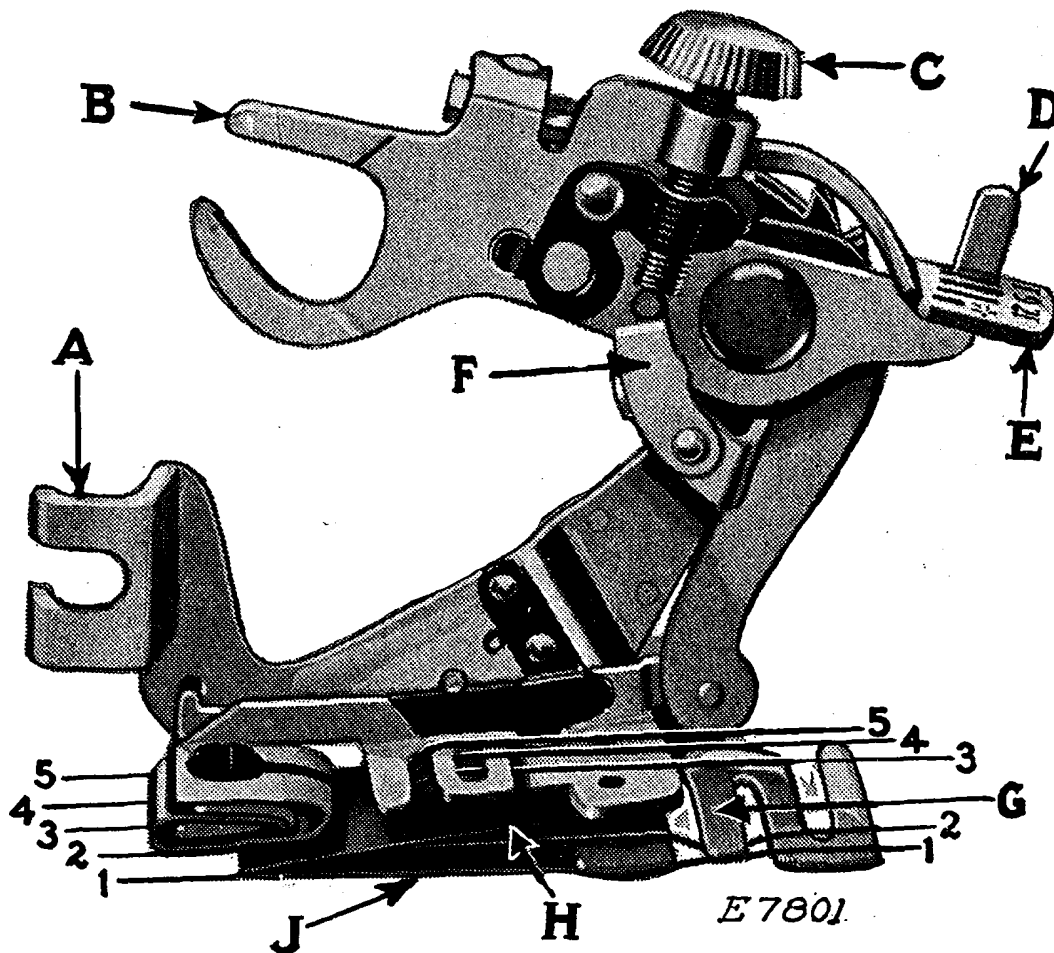
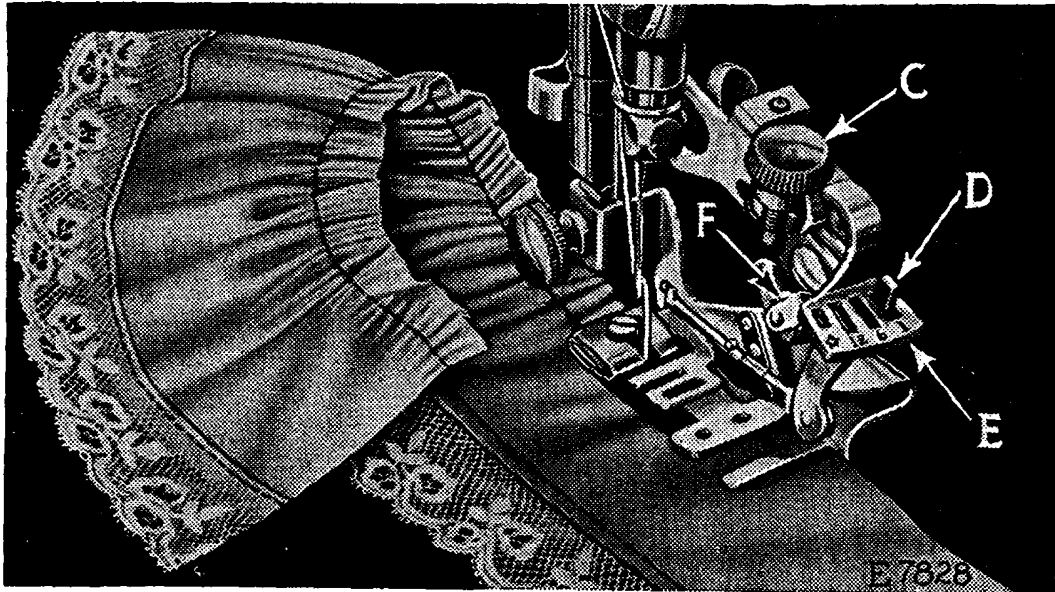
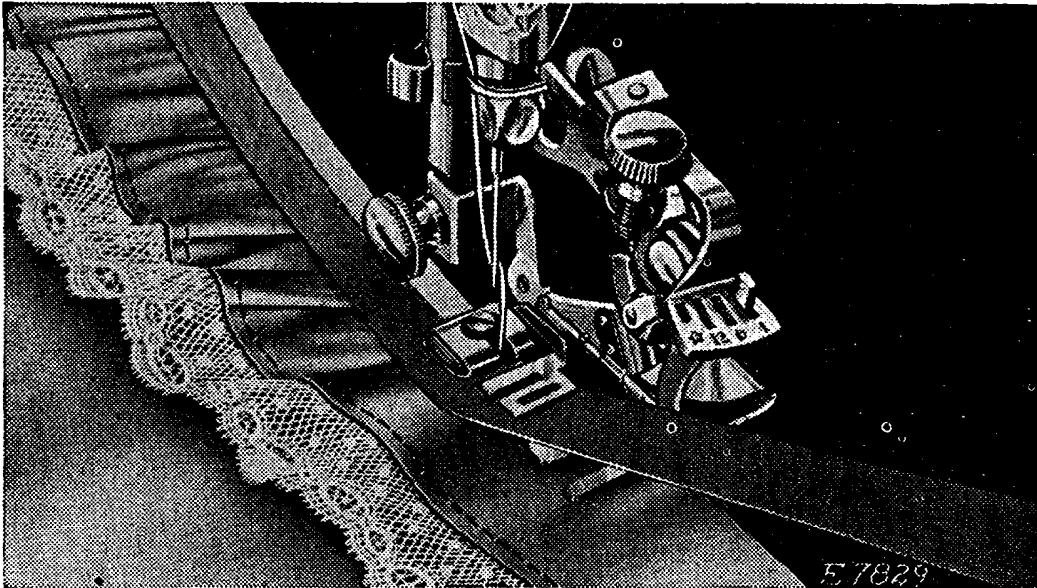
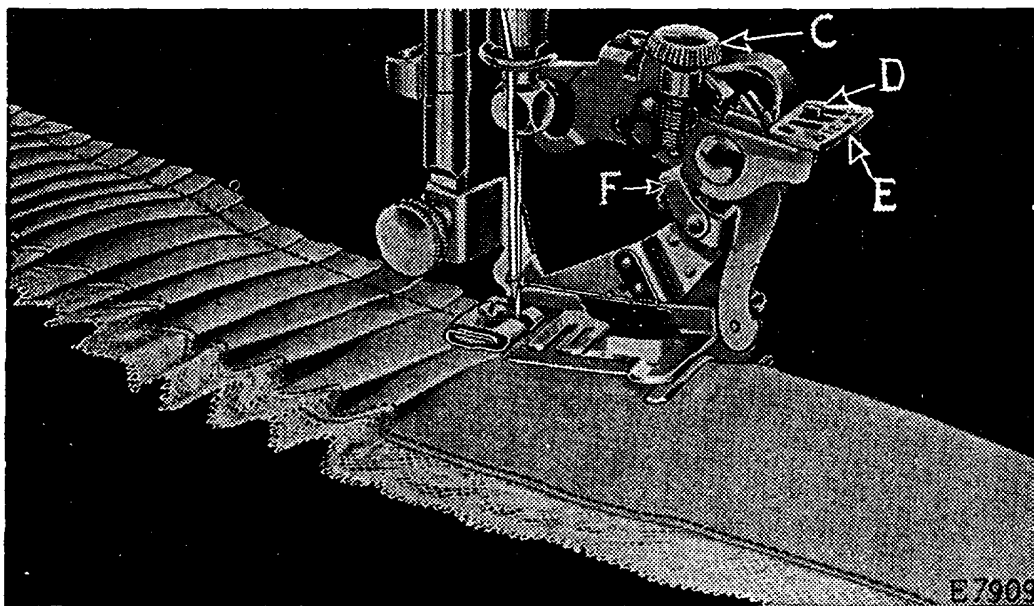

FIG. 42. THE RUFFLER AND ITS PARTS
FIG. 43
FIG. 45
FIG. 47
Lines 1, 2, 3, 4 and 5 shown in Fig. 42 indicate where the material is to be placed for various operations, as follows:
Refer to Fig. 42 when inserting the material in the ruffler.
(SEE REFERENCES IN FIG. 42)
Raise the needle bar to its highest point and remove the presser foot. Attach the ruffler foot (A, Fig. 42) to the presser bar by means of the thumb screw, at the same time placing the fork arm (B, Fig. 42) astride the needle clamp as shown in Fig. 43.
The adjusting finger (F, Fig. 43) is not intended for gathering and should be moved forward or away from the needle, as shown in Fig. 43.
Raise the adjusting lever (E, Fig. 43) and move it to the left so that the projection (D, Fig. 43) will enter the slot marked "1" in the adjusting lever (E) when the lever is released. The ruffling blade will then move forward and back once at every stitch. Insert the material to be ruffled between the two blue blades, following the line 2 in Fig. 42. Draw the material slightly back of the needle, lower the presser bar and commence to sew.
2, in Fig. 42. Place the garment to which the ruffle is to be attached, under the separator blade, following the line 1, in Fig. 42. Proceed the same as for gathering.
Insert the material to be ruffled between the two blue blades, following the line 2, in Fig. 42. Place the garment to which the ruffle is to be attached, under the separator blade, following the line 1, in Fig. 42. Place the material for the facing over the upper blue blade, as shown in Fig. 45, following the line 3, in Fig. 42. The facing may be straight or bias material. If the facing is to be on the right side of the garment, place the garment and
Insert the material to be ruffled between the two blue blades, following the line 2, in Fig. 42. This
The material for piping must measure about  $\frac{1}{4}$  inch wide when folded in the centre and is usually cut on the bias. Place the piping material in the ruffler, following the line 4, in Fig. 42, with the folded edge of the piping to the right. The material to which the piping and ruffling are to be sewn should be folded on the edge and inserted in the ruffler, following the line 5, in Fig. 42.
Raise the adjusting lever (E, Fig. 47) and move it to the right so that the projection (D, Fig. 47)
will enter the slot marked "6" in the adjusting lever when the lever is released. The ruffling blade will then move forward and back once at every six stitches. To adjust the ruffling blade to make a plait once at every twelve stitches, place the adjusting lever (E, Fig. 47) so that the projection (D) enters the slot marked "12" in the adjusting lever. Insert the material to be plaited between the two blue blades, following the line 2, Fig. 42. The size or width of plaits is regulated by the adjusting screw
(C, Fig. 47) and the adjusting finger (F, Fig. 47). To make a wider plait, move the adjusting finger (F) back or toward the needle and turn the adjusting screw (C) downwardly. To make a smaller plait, turn the adjusting screw (C) upwardly. The distance between plaits is regulated by the length of stitch.